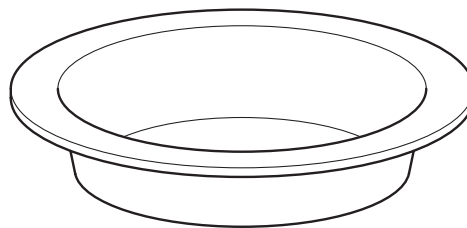

Fig. 9
- 16 Choose **two** of the tasks in Fig. 9 and, using notes and sketches, describe how each task is carried out.